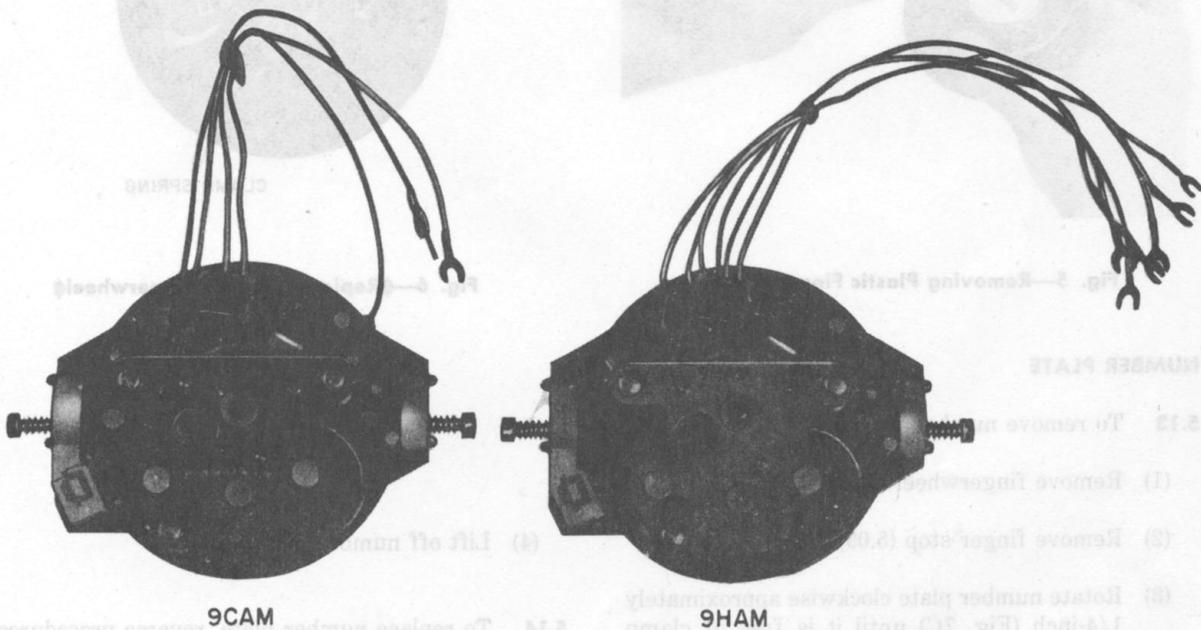

Fig. 3—9CAM and 9HAM Dials, Rear View
1.01 This section is reissued to add information for the 9CAM and 9HAM dials, Fig. 3.